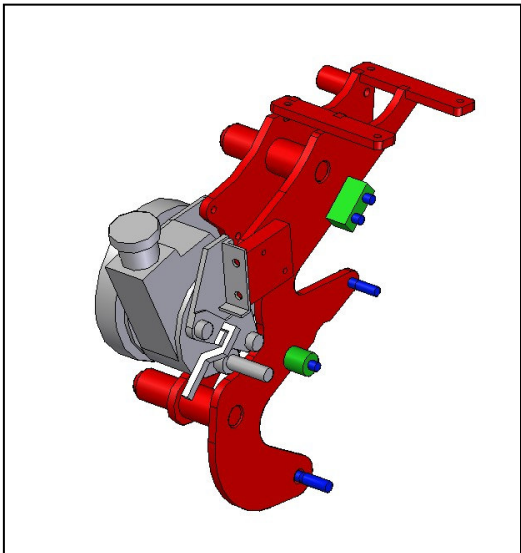

Figure 2
28. Install the generator serpentine drive belt. Check the OEM and the Raven belt trains for interference and tensioner operation. See **Figure 2**.